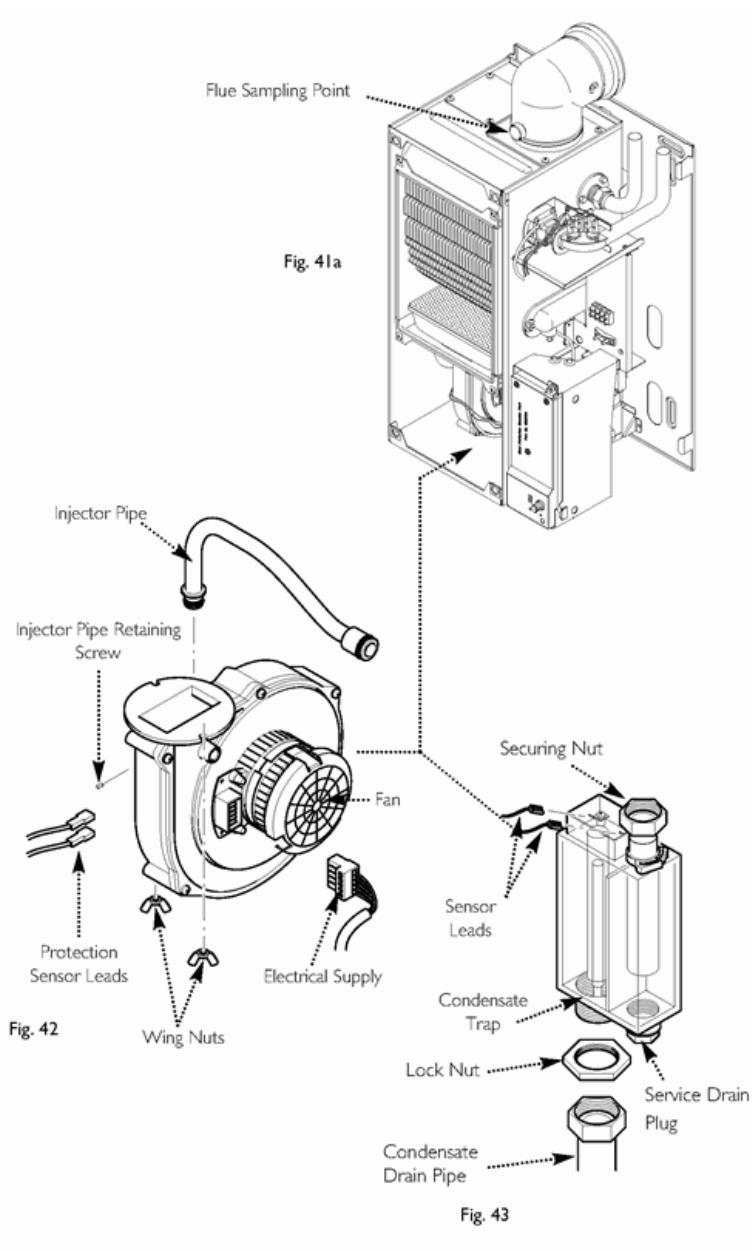

Fig. 41a, Fig. 42 & Fig. 43
12. Check CO/CO₂ ratio and CO₂ level at flue sampling point (Fig. 41a) as quoted in Section 4.0 'Technical Data'.